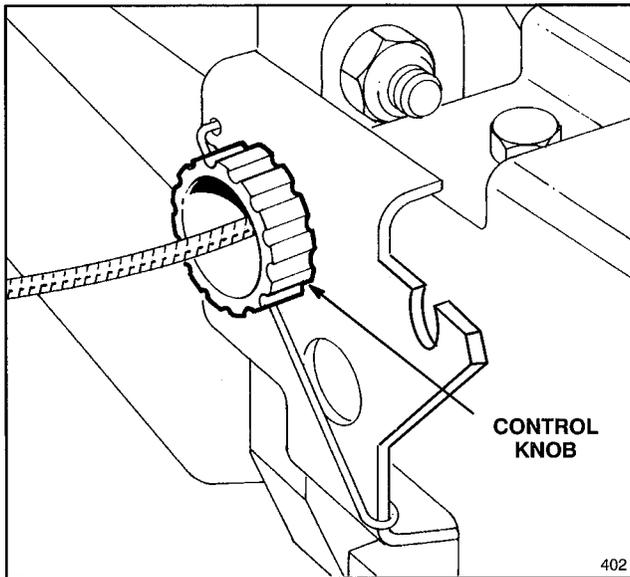

Figure 19
1. ADJUSTMENT (Fig. 19)—Rotate control knob clockwise 1/2 turn if mower does not self-propel. If mower creeps forward, rotate knob 1/2 turn counterclockwise to loosen belt.